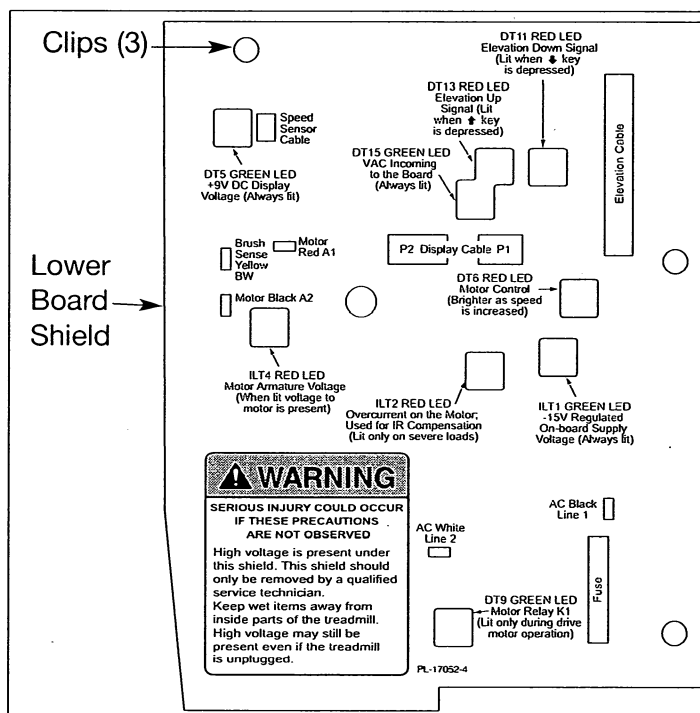

Figure 19
E. Refer to the lower board shield to confirm the locations for the connectors and check to see that all of the cables are connected firmly. See Figure 19.
NOTE: The clips will snap in. See Figure 19.